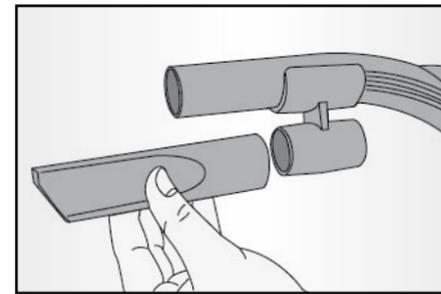

Fig. 5
Put the appliance away, fitting the attachment storage compartment (15) on the handle (18) and hooking on the crevice nozzle (17) and dusting brush (16) (Fig. 5).